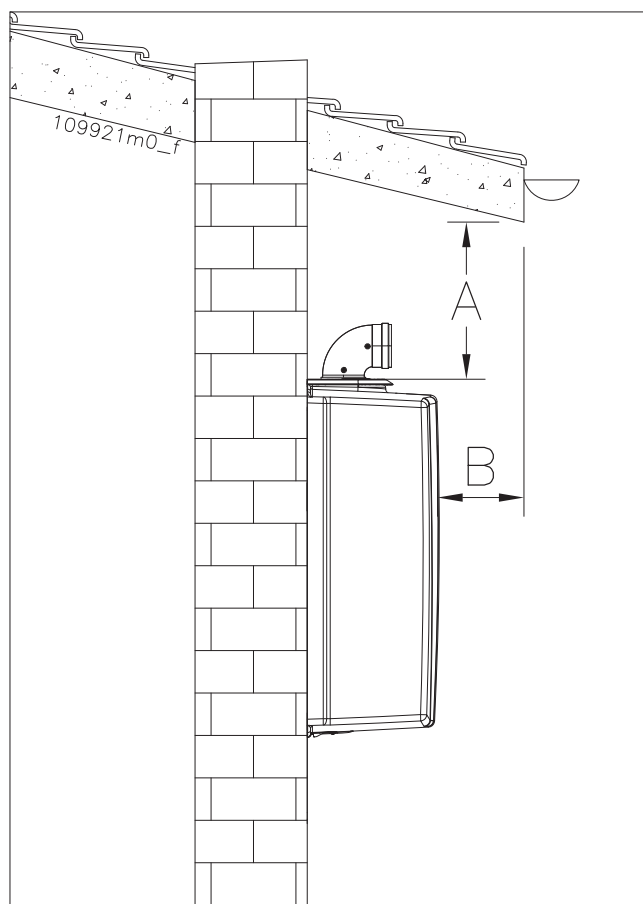

Figure 4-4 – Example of a partially protected place
☞ This boiler is not designed to be installed in the open air; it must not be exposed to temperatures below 0.5°C and above 50°C. Choose a place sheltered from weathering and frost. If the appliance is equipped with a special external cover kit (see section 5.18) it can be installed outside, in a place partially protected from rain, snow and hail, such as a balcony or porch (see figure 4-4).
**Figure 4-4 key – Distances "A" and "B" must be assessed during installation so that rain does not reach the appliance directly.**